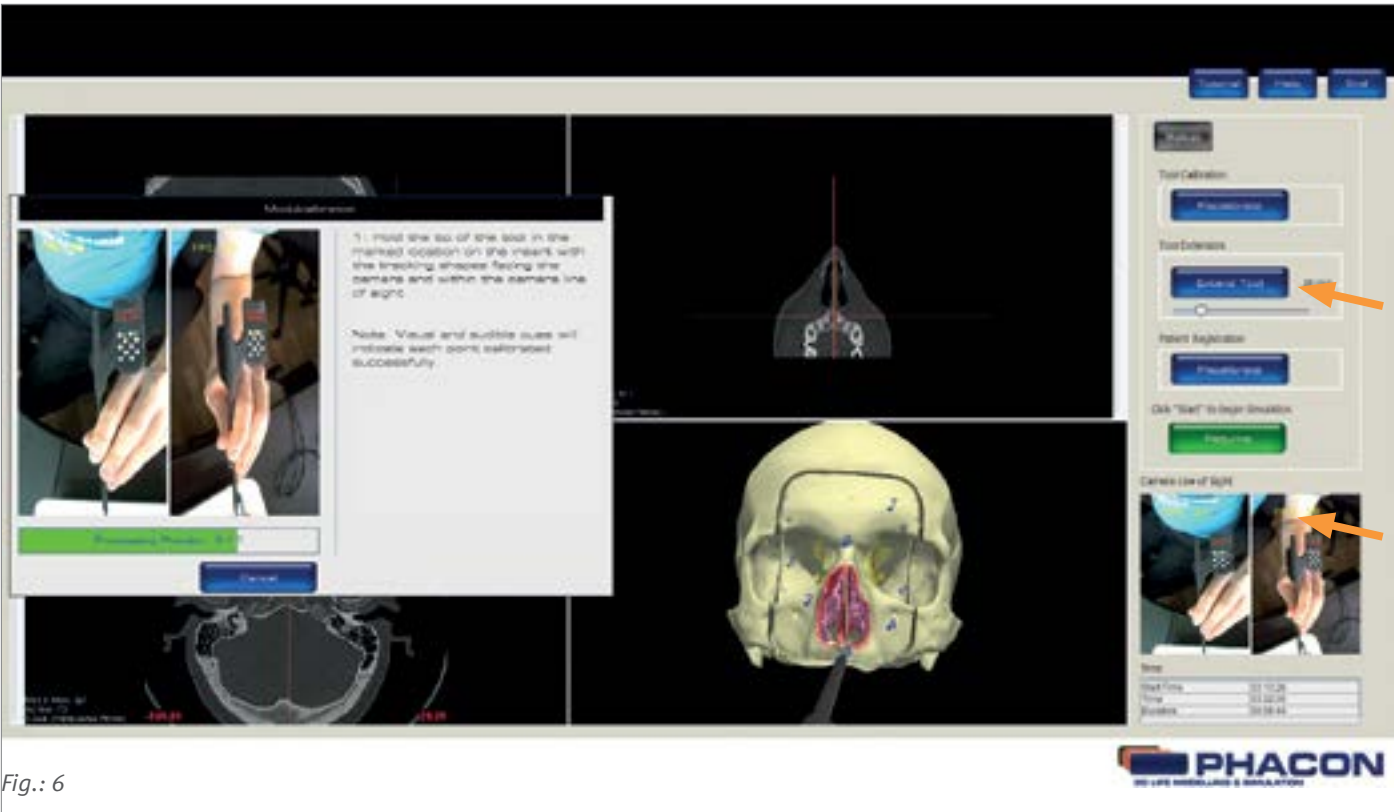

Fig.: 6
1. Click on the RECALIBRATE button to begin the calibration process (Fig. 6).